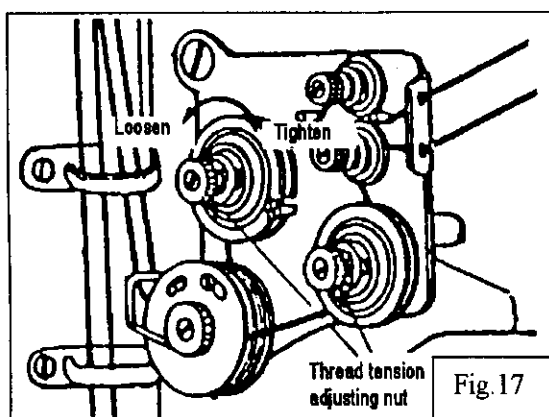

Fig.17
10) Needle thread tension (Fig.17)